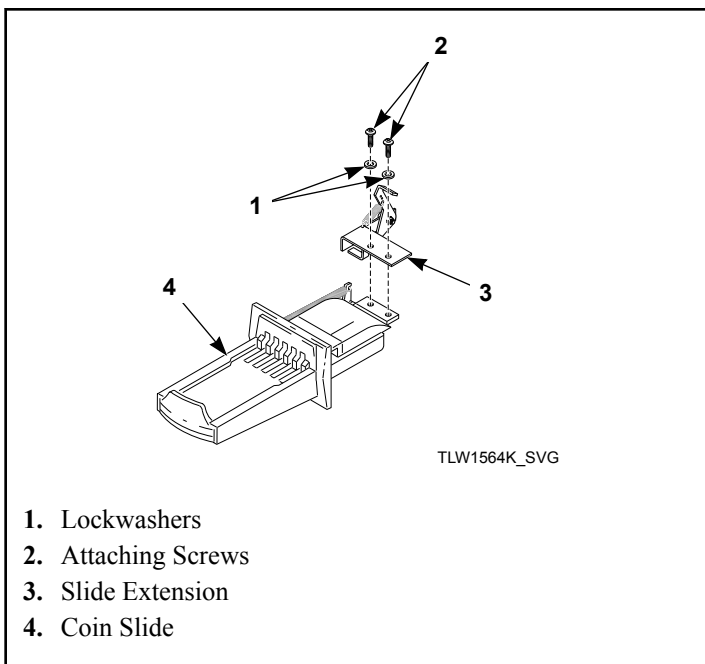

Figure 26
1. Install slide extension onto top of coin slide using two remaining screws and lockwashers. Refer to *Figure 26*.